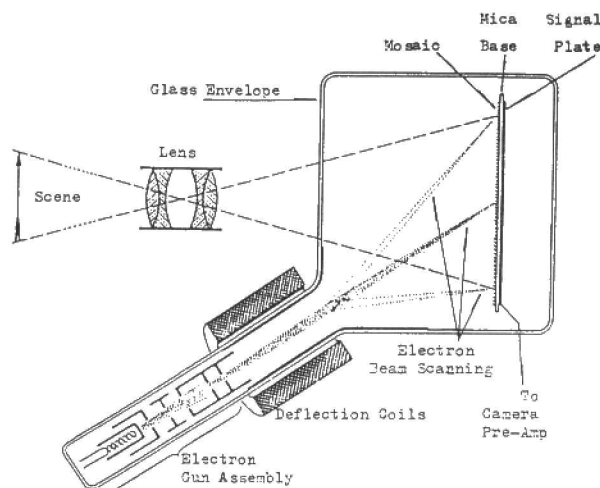

Figure 2. Vladimir Zworykin's Iconoscope of 1933.
For the next seven years or so, Zworykin developed his brainchild which '...though difficult to manufacture and operate...[was]...a great advance on the earlier mechanical methods.' (4). The Iconoscope, shown in **Figure 2**, looked like nothing so much as one of the more arcane laboratory retorts.